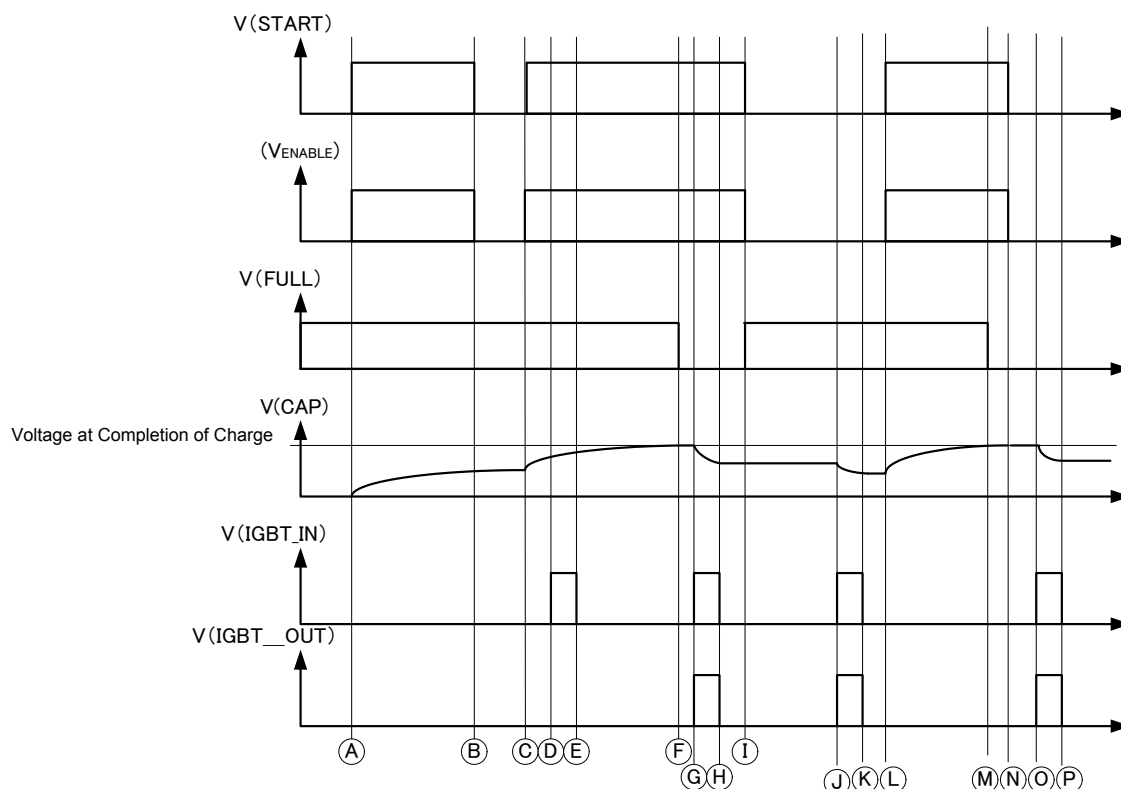

Fig 33 Timing Chart 1: Overall Operation
In this IC, a charging operation starts when the START pin is set to "H" (See Time ①, ③ and ⑤ in Fig 33.). In order to maintain the charging operation, the START pin must be set to "H". (See Time ① to ③, ③ to ⑤, ⑤ to ⑦ in Fig 33.) If any of the conditions ① to ③ are satisfied, the charging operation stops.
- ① The START pin is set to "L".
- ② Charging is completed. The VC pin voltage reaches the specified voltage. (See Time ⑥ and ⑧ in Fig 33.)
To re-charge, set the START pin to "L", and the FULL pin is changed from "L" to "H". Also, if the CHARGE_ON pin is changed from "L" to "H" again, the charging operation re-starts. (See Time ③ in Fig 33.)
Set the IGBT_IN pin to "H" when the IGBT driver satisfies the following 4 conditions. The "H" signal is output to the IGBT_OUT pin. (See Time ④, ⑥ and ⑧ in Fig 33.)
- ① The VCC voltage is the UVLO release voltage or more.
- ② The FULL pin is set at "L".
- ③ Even if the IGBT_IN pin is set to "H" while the START pin is set to "H", the IGBT_OUT pin remains at "L" and no light flashes.